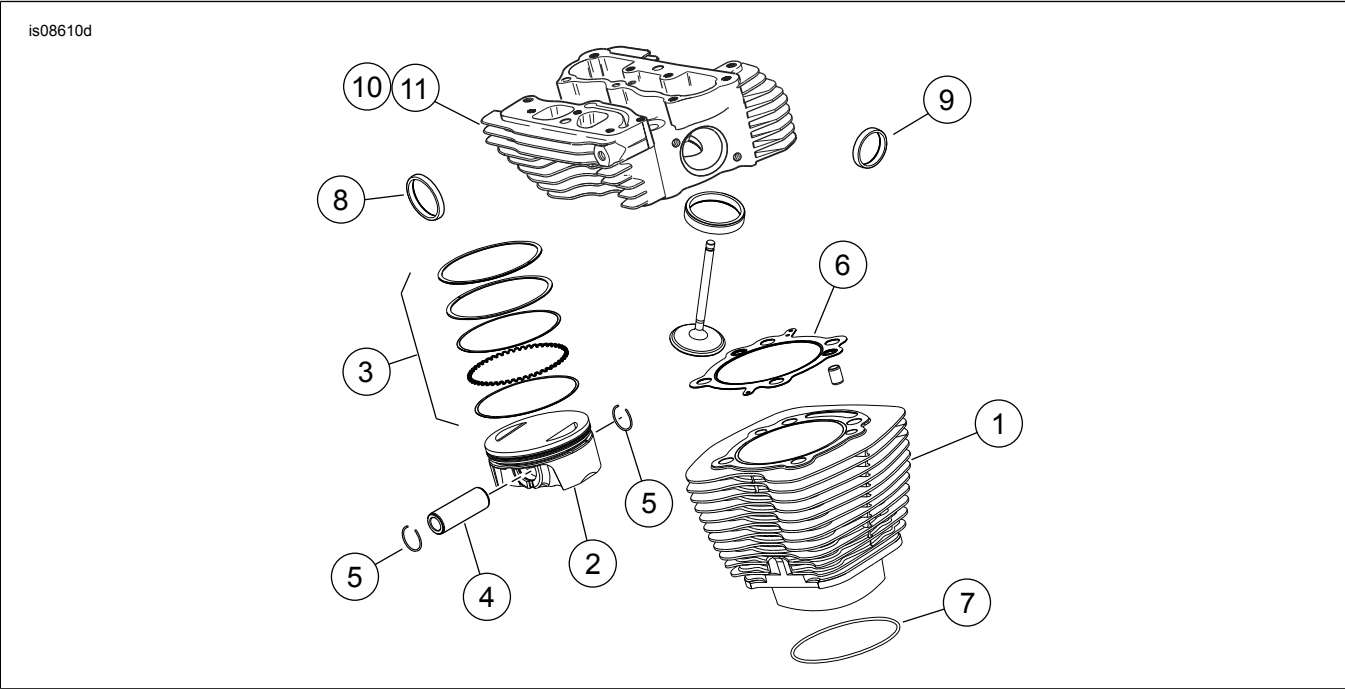
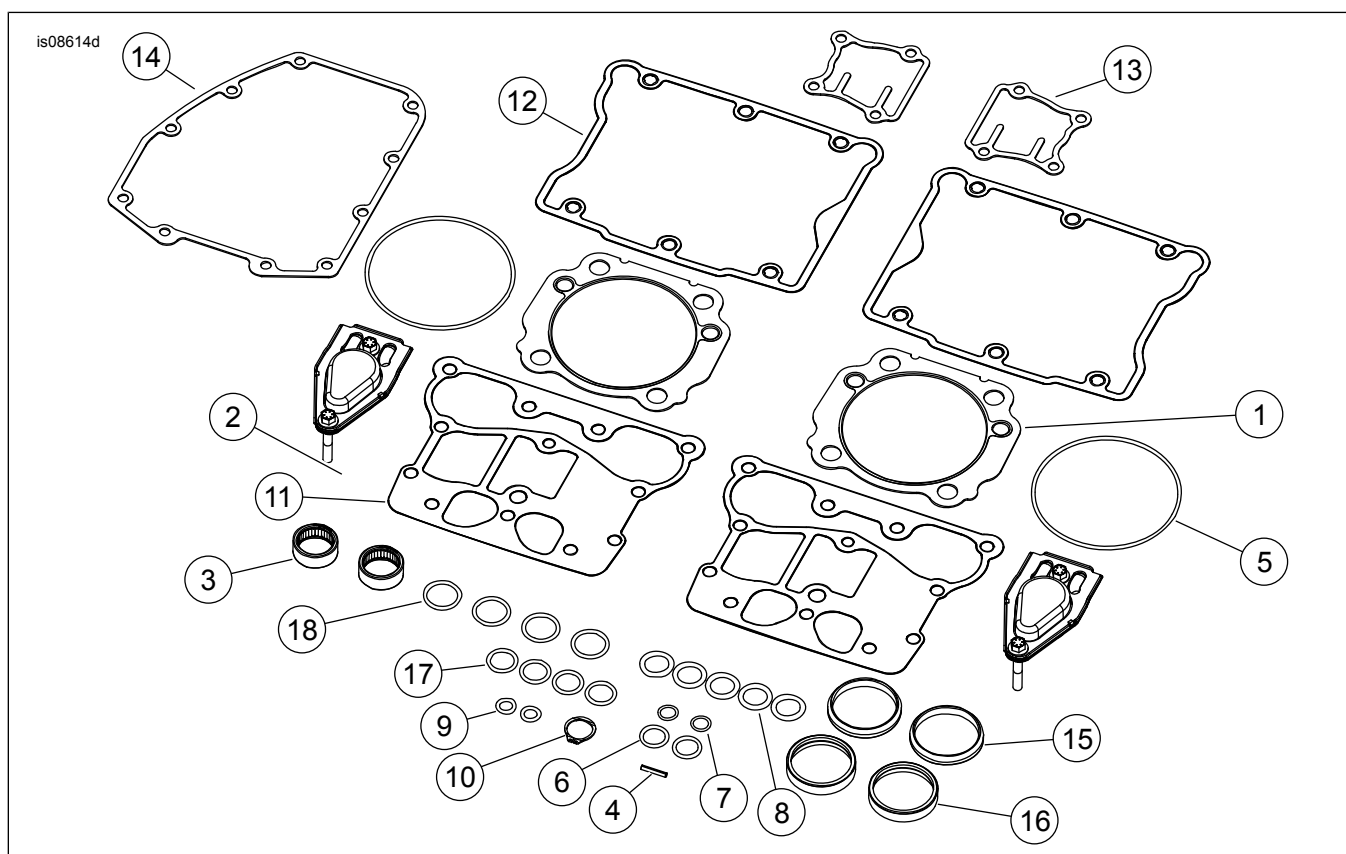

Figure 1. Service Parts: Screamin' Eagle Twin Cam 110 (1800 cc) Stage V Race Kit
Figure 4. Service Parts: Screamin' Eagle Twin Cam 110 (1800 cc) Stage V Race Kit
See Figure 1 to Figure 4, and Table 1 to Table 4.
1. See Figure 4. Install new inner cam bearings included with this kit.
2. See Figure 1 through Figure 4. Assemble cams to cam plate and engine top end using parts from kit. Refer to appropriate ENGINE sections in service manual.